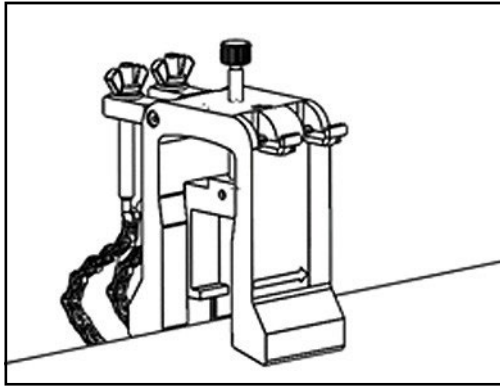

Figure 36: Yoke Placement On Top of Pipe
2. Place the yoke on the top of the pipe (see Figure 36 below). If the required transducer spacing is < 305 mm/12 in., the yoke chain must be placed within the clamping fixture as shown.